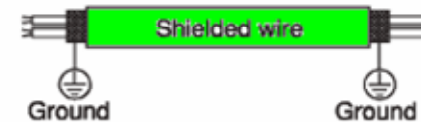

Fig. 4-4
**(5) Use shielded wires for inter-unit control wiring (c) and ground the shield on both sides, otherwise misoperation from noise may occur. (Fig. 4-4) Connect wiring as shown in Section “4-3. Wiring System Diagram.”**